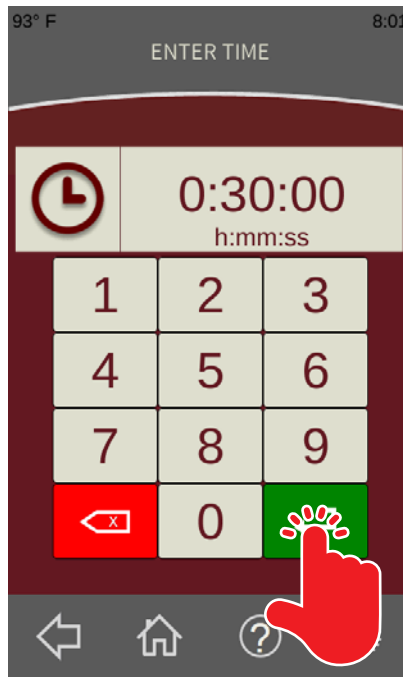

Fig. 7
- From the **Enter Time Screen** (Fig. 7), enter the desired time on the keypad and touch the green Enter button (Fig. 7).